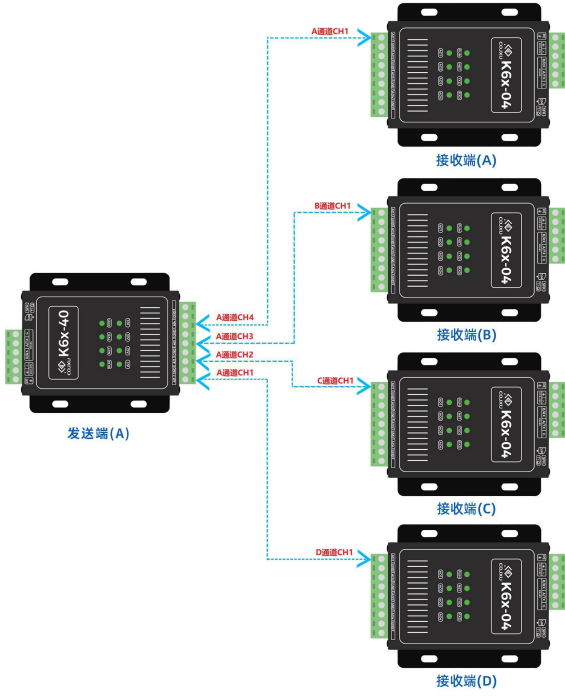
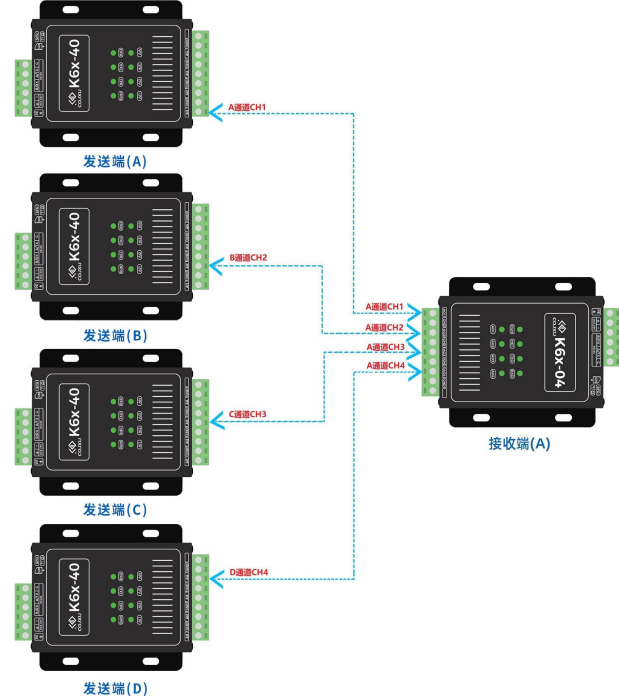

Figure 4-17 An example of self-organization of 1 sender and 4 receivers
Figure 4-18 4 senders and 1 receiver ad hoc example
B. The combination method is shown in the sample diagram: Figure 4-17, Figure 4-18, etc.